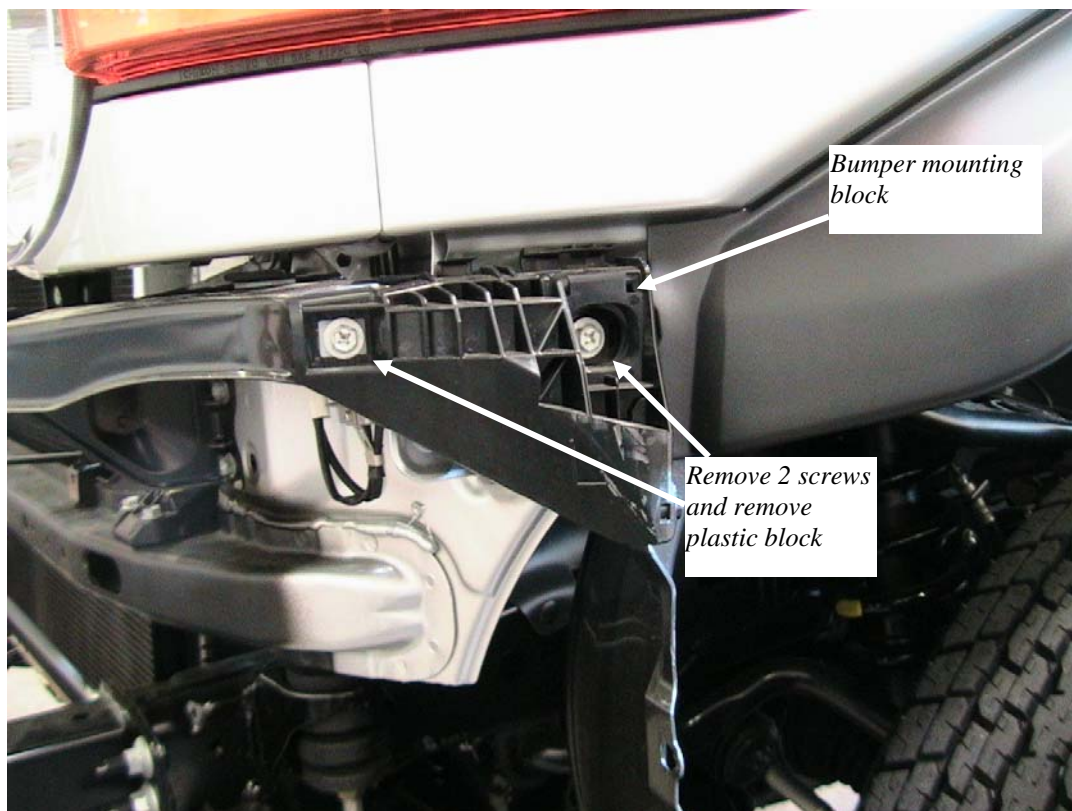

Figure 8 LH bumper mounting block
8. Remove the two screws that hold each plastic mounting block in place and remove the blocks. **Figure 8**